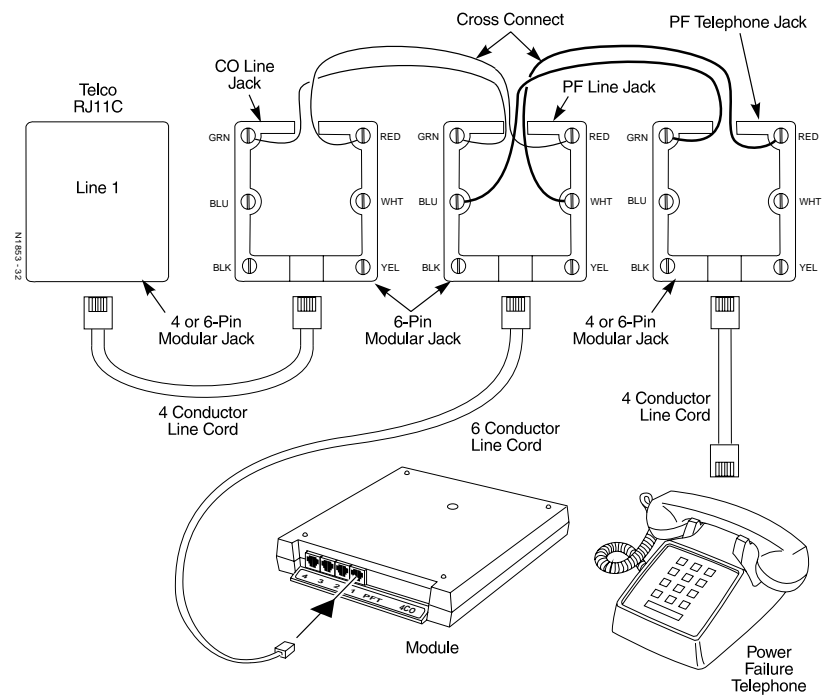

FIGURE 19
2. Connect GRN/RED from the CO Line jack to GRN/RED of the PF Line jack using one-pair x-connect cable. See Figure 19.